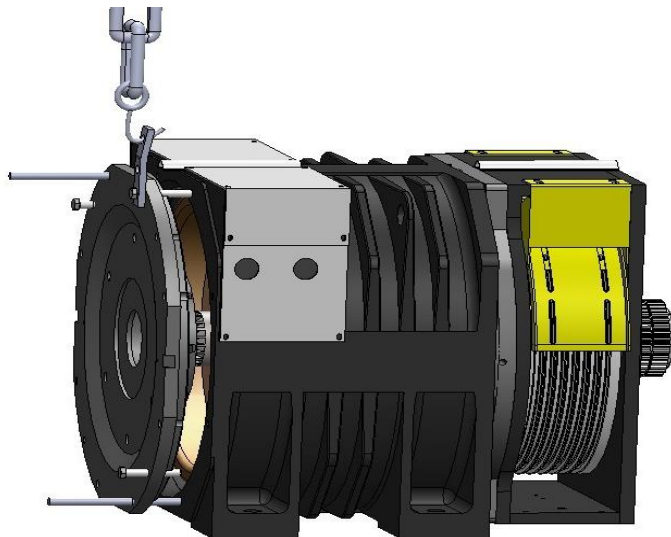

Figure 70: End cover installation
- Hammer the end cover with the rubber hammer evenly, and make the end cover fit in the bearing well. See Figure 70.